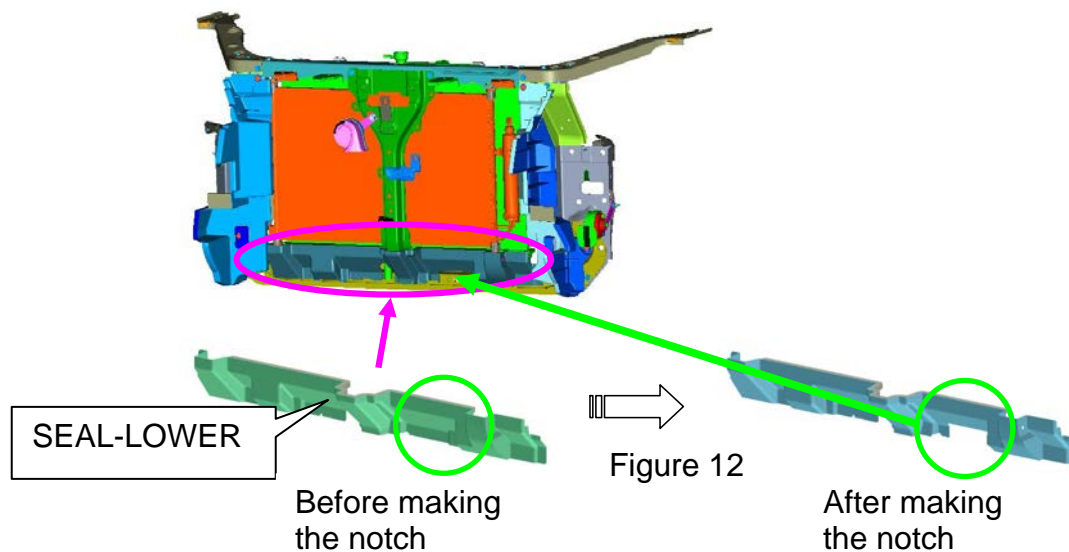
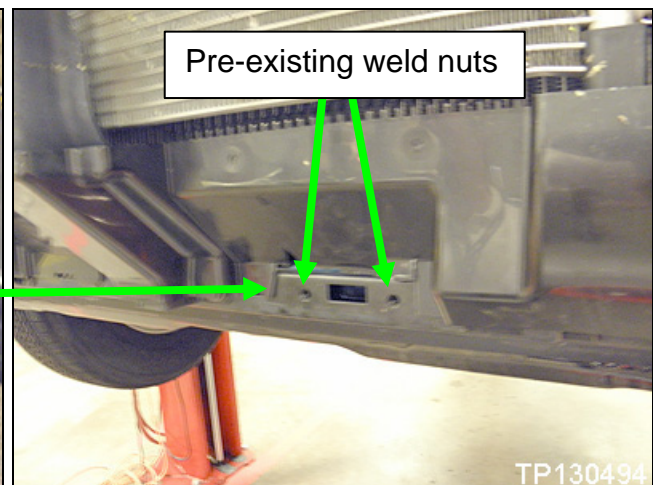
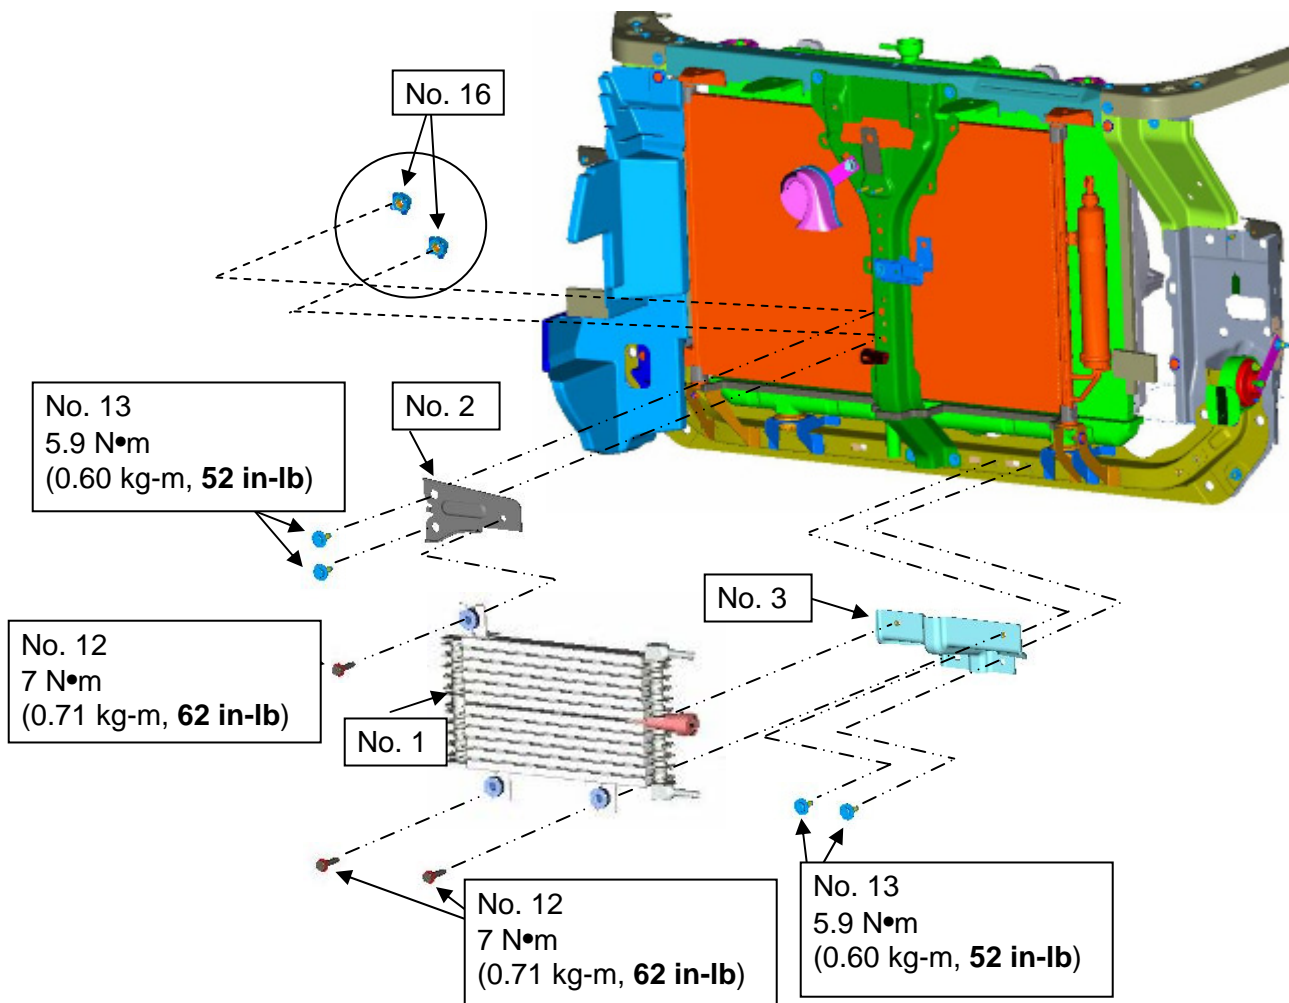
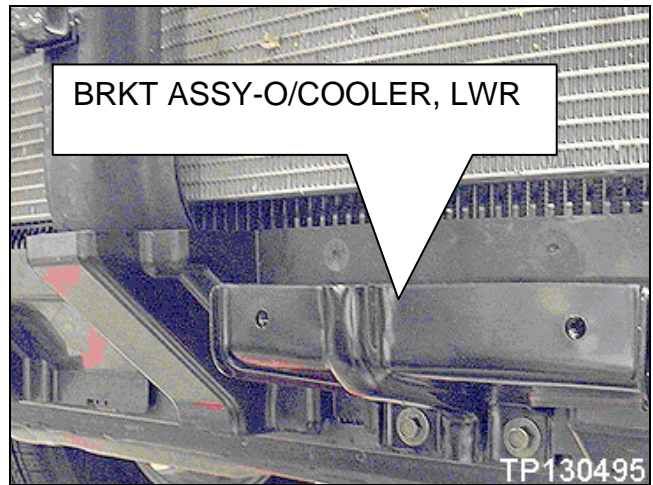

Figure 13
Figure 14
Figure 15
Figure 16
- a. See Figure 14 for reference to locate the pre-existing weld nuts in the lower radiator support that the BRKT ASSY-O/COOLER, LWR (No. 3), shown in Figure 15 and Figure 16, will be attached to.
- b. Place the BRKT ASSY-O/COOLER, LWR from the kit over the SEAL-LOWER and mark "bracket width" where the material will be removed as shown in Figure 12 and Figure 14.
- c. Remove only enough material (Figure 13 and Figure 14) to allow the BRKT ASSY-O/COOLER, LWR to be installed to the lower radiator support (approximately 127mm x 50.8mm [5" x 2"]).
Figure 13 and Figure 14 illustrate the area to remove the material to allow clearance to install the BRKT ASSY-O/COOLER, LWR.
Figure 15 illustrates the COOLER ASSY-AUTO TRANS and attachment points to vehicle and is for reference when performing steps on page 10.
NOTE: Refer to Figure 15 on page 9 for steps 2-4 below.
4. Install COOLER ASSY-AUTO TRANS, OIL (No. 1) and torque all bolts to specifications provided in Figure 15.